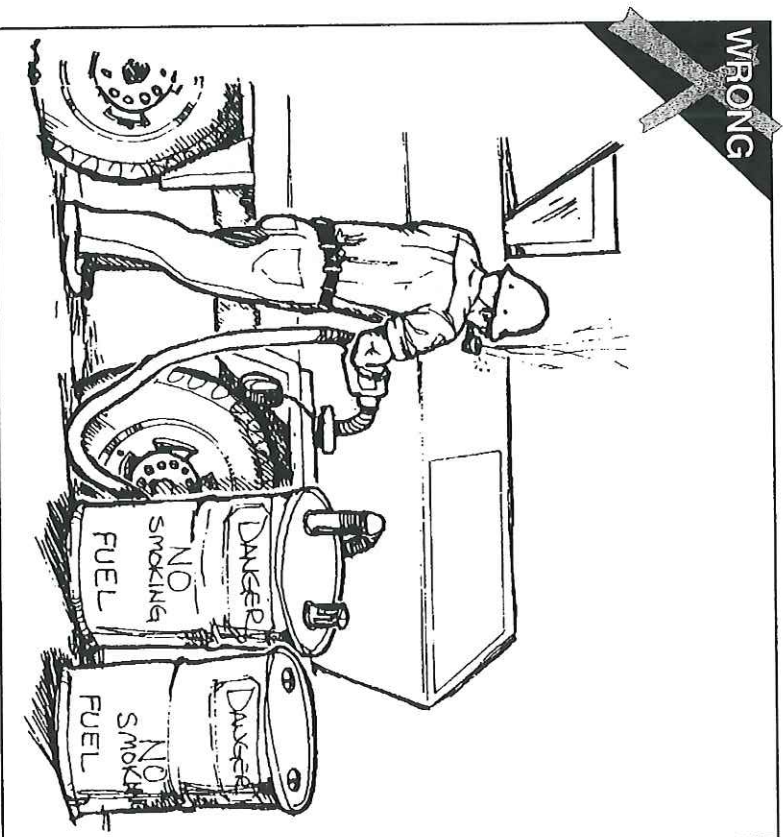

FIG. 62
- Open lights, lighted smoking materials, flames, or spark producing devices shall be kept at a safe distance while refueling. (FIG. 62)